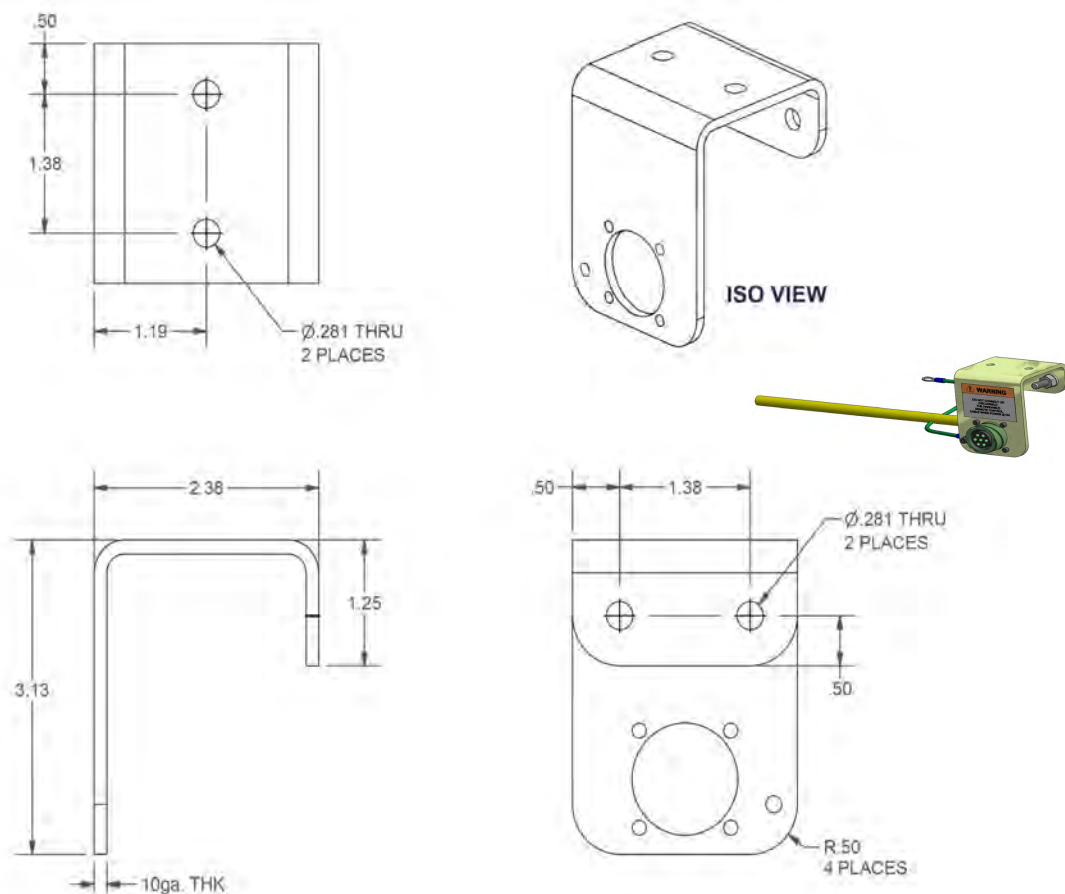

Figure 5-22 HHRC Bulkhead Bracket Installation Dimensions
1. Drill clearance holes for 1/4-20 screws located per Figure 5-22. Either two hole pattern can be selected according to the space available.